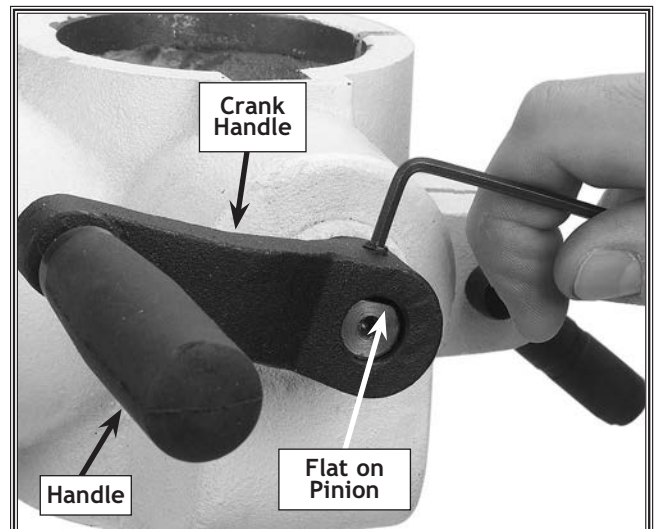

Figure 12. Crank and set screw positioning.
9. Align the set screw in the crank handle with the flat on the pinion shaft and tighten, as shown in **Figure 12**.
10. Thread the handle into the crank handle (**Figure 12**).